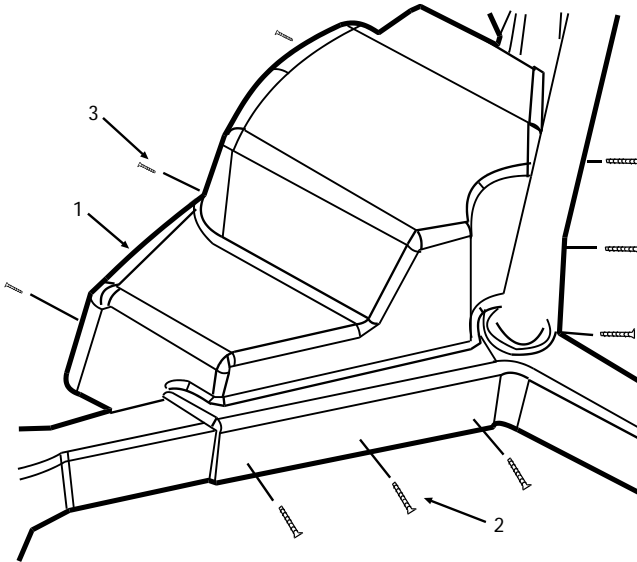

fig.6 Assembly of the battery backup cover
- Remove the mobile base cover screws (fig. 6)
Assembly the mobile base cover screwing the screws (fig. 6),
Removable adjusting handle (item. 1, fig. 6) is made of material resistant to high-temperature sterilisation conditions. The handle must be washed/cleaned, disinfected and sterilised, before the first use and before each next use.